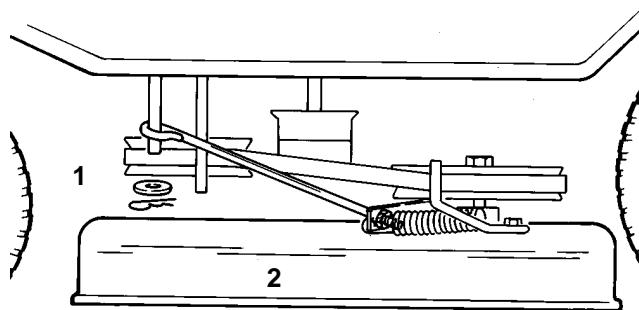

Figure 33
6. Remove the hair pin cotter and washer from the blade control arm on the left side of the mower (Fig. 33). Slide the rod off the arm.